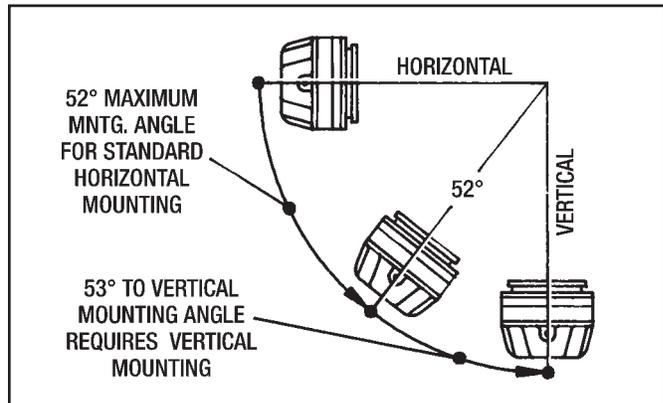

Figure 3.14
2. Remove Oil Sight Gauge (#46). (See Figure 8.2) Install the 1/2" N.P.T. x 2" long Nipple (#254) into hole. Screw Nipple (#253) into Elbow (#259) and screw Cap (#269) onto nipple. Screw this Assembly onto Nipple (#254). (See Figure 3.14)